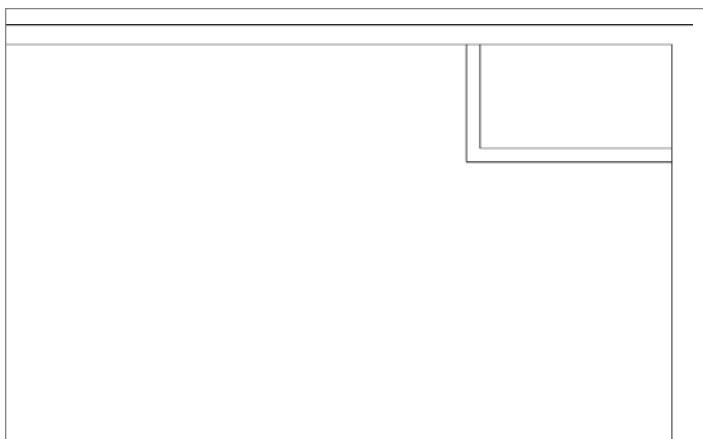

FIGURE 4.28 Fillet the two corners.
4. Use the FILLET command to clean up the interior and exterior wall line intersections, as shown in Figure 4.28.